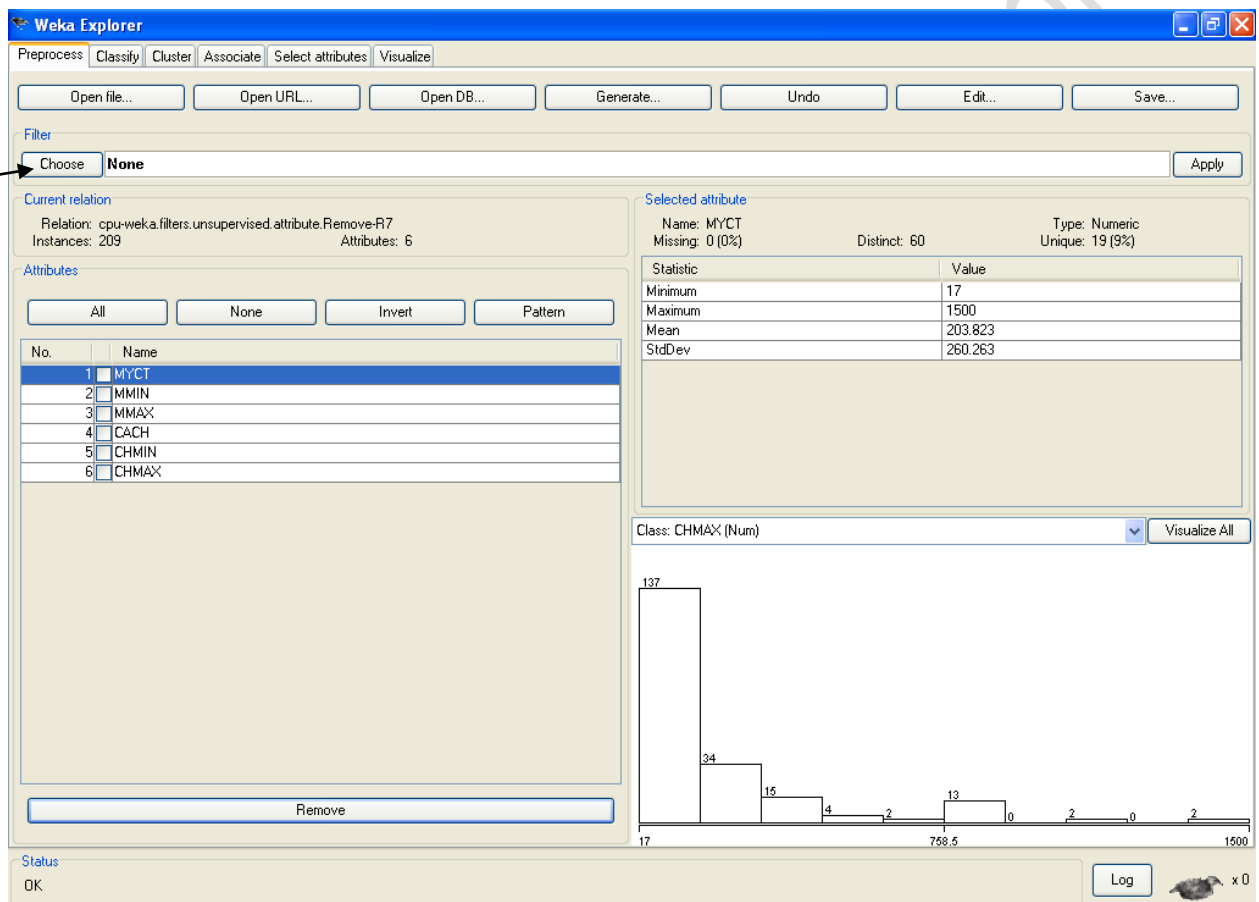
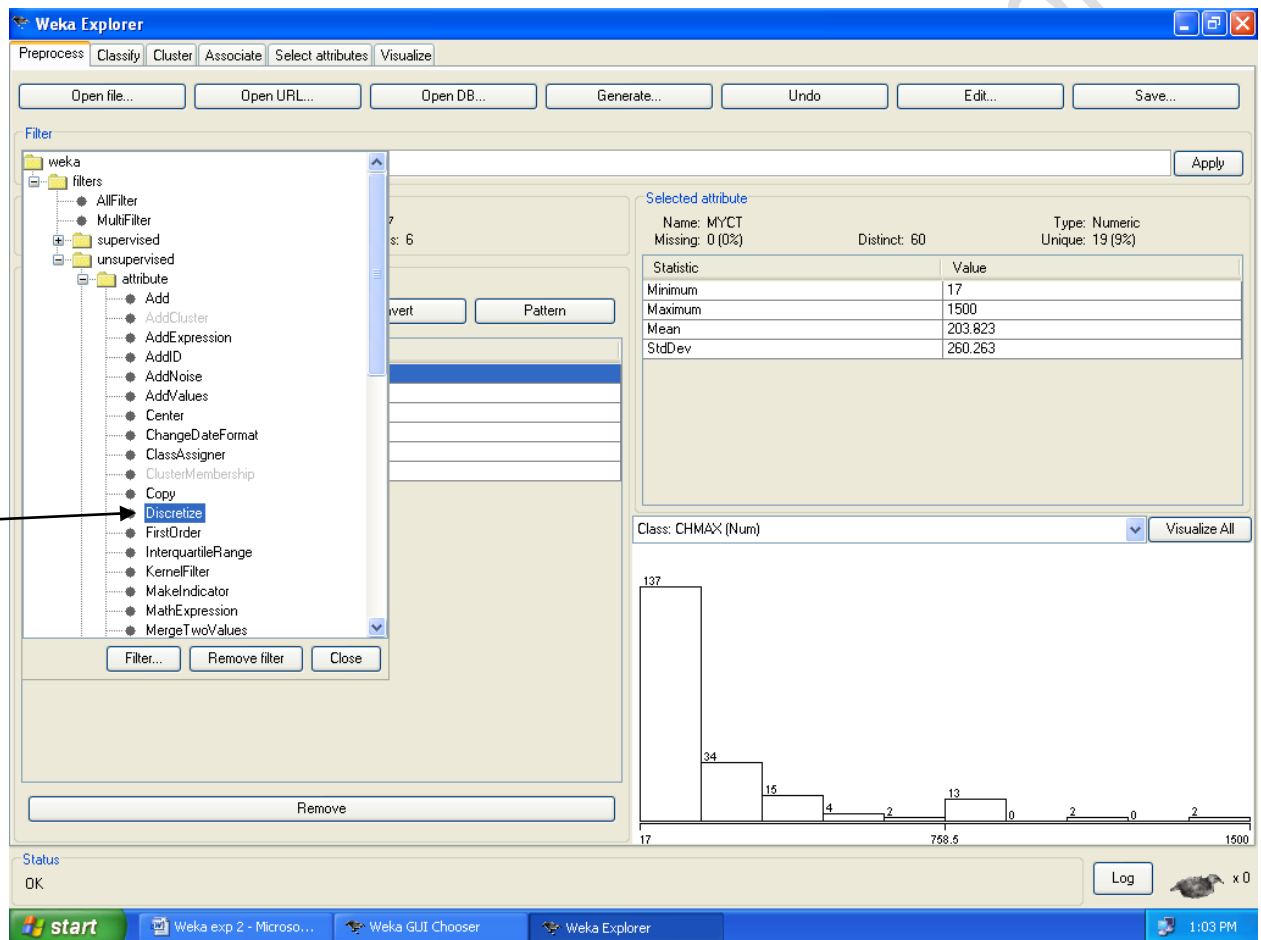

Figure-8
Figure-9
- Now click on the "choose" button from filter as in figure-8 and expand the "unsupervised" option and select the "Discretize" option, which is as shown in figure-9.